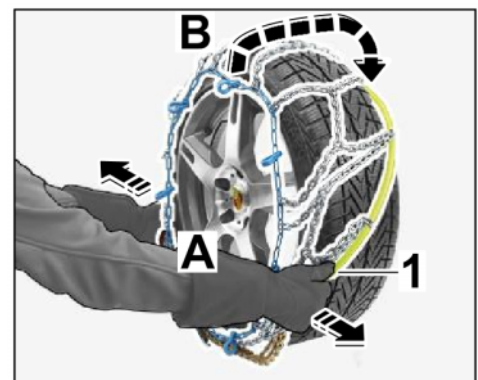

Figure 4
2.1.3 Pull the ends of the spring steel clip apart as far as possible (⇒ *Figure 4 -A-*) and guide the snow chain over the wheel from above (⇒ *Figure 4 -B-*).